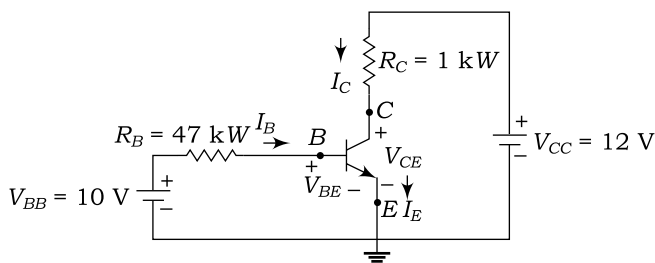

Fig. 2.112
39. Figure 2.112 shows a transistor amplifier circuit. Determine the value of saturation current and the collector emitter cut-off voltage. Draw the dc load line.